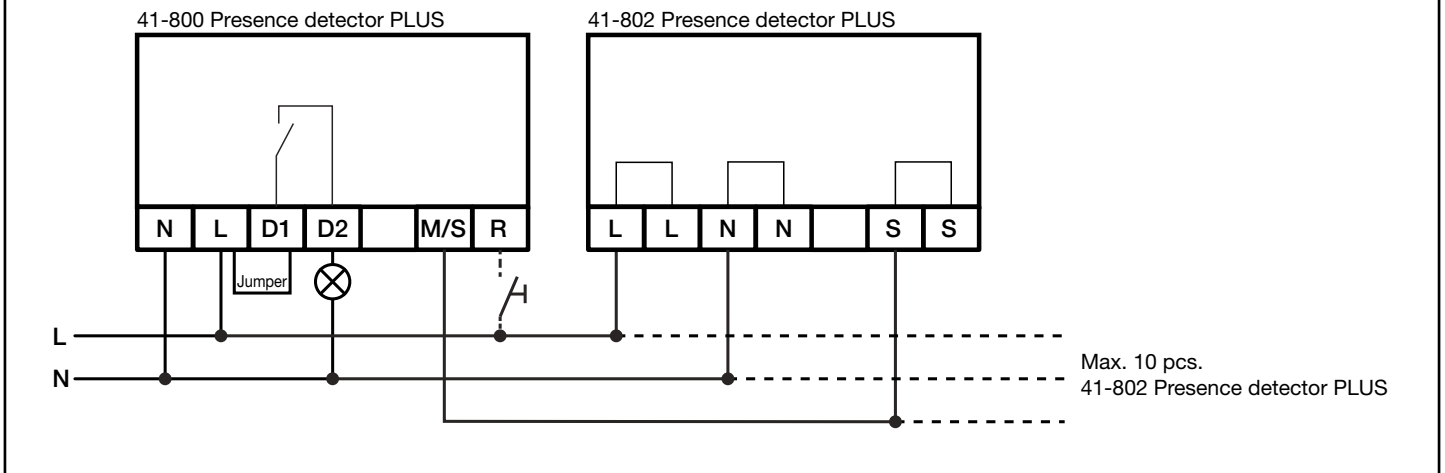

Fig. 6:
#### Fabriksindstilling, **Fig. 6**:
#### Factory setting. Fig. 6:
1. Refer to wiring diagrams (See **Fig. 4 - Fig. 6**) and check if the load is malfunctioned.
3. Refer to wiring diagrams (See **Fig. 4 - Fig. 6**).